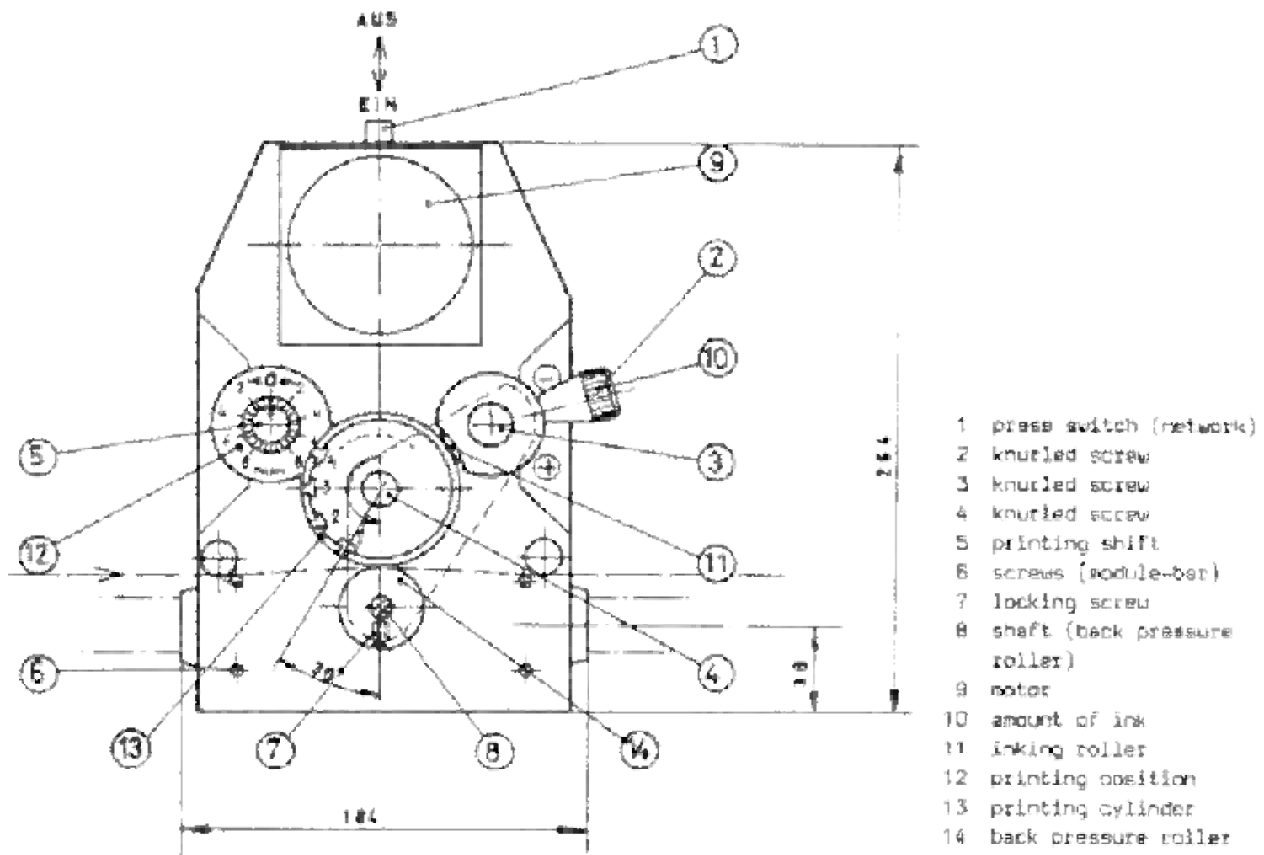

Fig. 11
Rough adjustment: Unscrew the four bolts (6), refer to figure 11, and move the complete printer unit on the module rail.
Fine adjustment: Push and turn the printing shifter (5), refer to figure 11, max. shift:  $\pm 8$  mm.
Backpressure and parallelism are factory-set on medium thick paper. For readjustment of backpressure (parallel): unscrew the stud bolt (7), see figure 11, behind the backpressure roller and twist axle (8). Retighten bolt (7).
Turn pressure-shifting knob (5), see figure 11, to "0"-position. Remove knurled bolt (4). Switch on the device (monitor), turn on rotary printer (abbr.: RDW) with print switch (1). Printing shaft (4) automatically turns to zero position. Move pressure cylinder on printing shaft and position nut no. 1 as shown in figure 11, snap in the cylinder, insert the knurled bolt (4).
Unscrew knurled bolt (2), see figure 11, and move to "+" or "-". Retighten bolt.